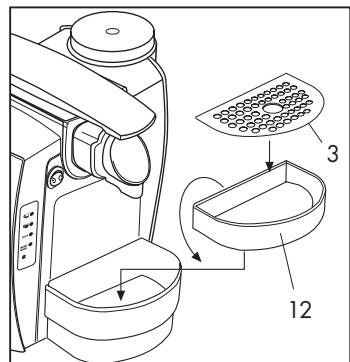

Fig.6
The grid can be adjusted (3) to two different heights, depending on the size of the cup (or mug) that you intend to use. This is achieved by turning the support (12) upside-down and putting the grid back to its place (3) **(Fig. 6)**